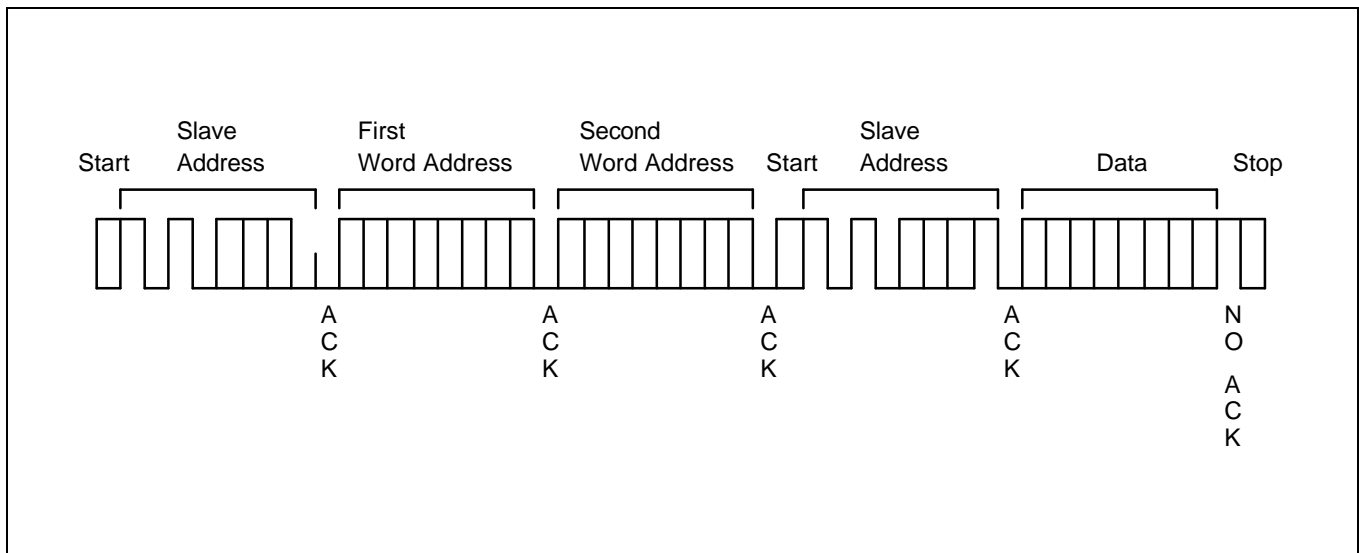

Figure 7-14. Random Address Byte Read Operation
5. The S524LB0X91/B0XB1 stops transmitting data and reverts to stand-by mode (see Figure 7-14).